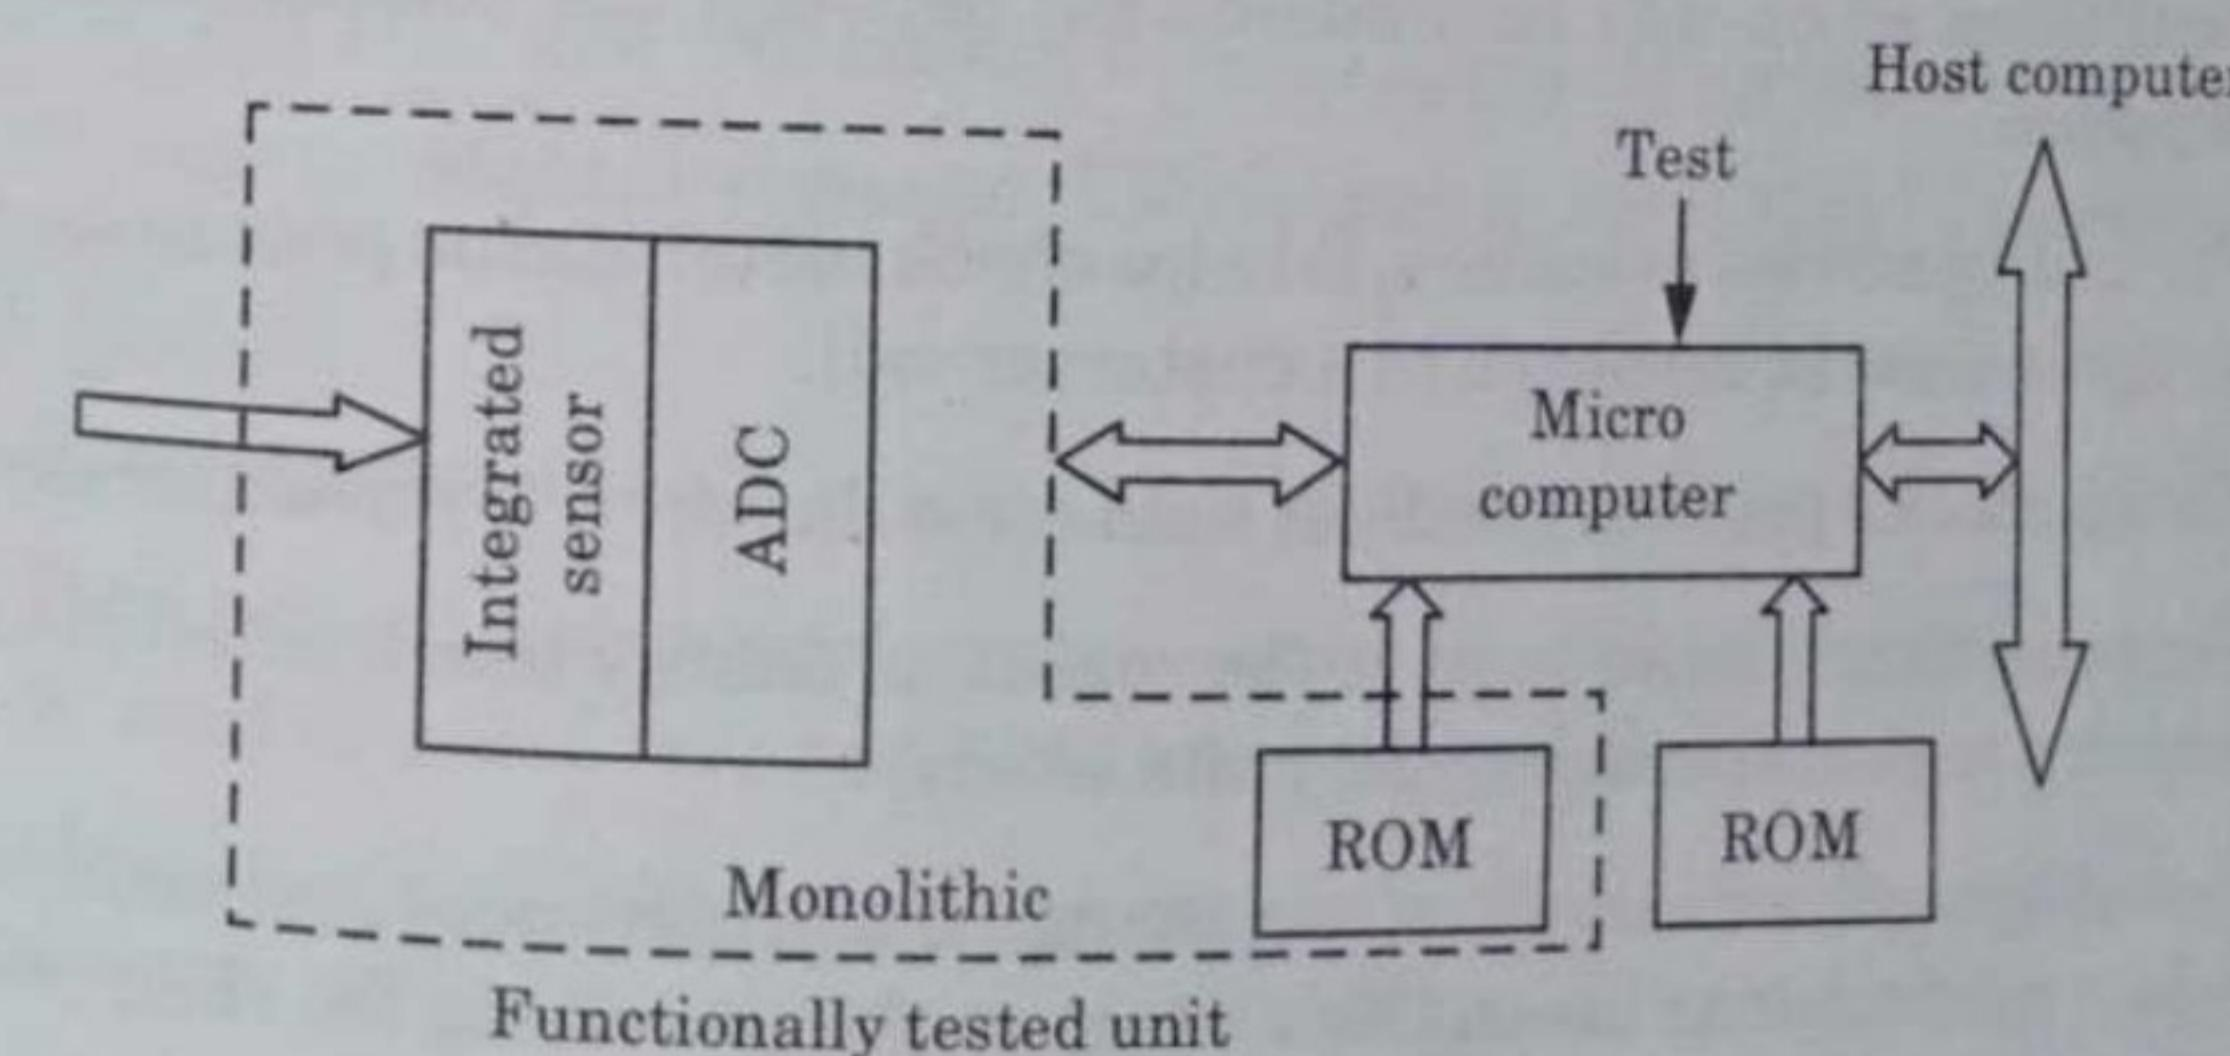

Fig. 5.8.3. Fifth generation smart sensor.
- The block diagram of fifth generation smart sensor is shown in Fig. 5.8.3, along with an integrated sensor analog to digital conversion (ADC) device.